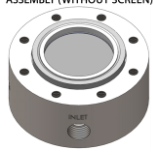

Figure 2: Correct Cartridge Assembly Installation
8. Install a replacement cartridge assembly to the separator body (*Figure 1* and *Figure 2*). Ensure that the grooved side of the cartridge body faces up to the outlet.
10. Following a cross-bolting sequence, install the eight (8) cap screws to the cap of the LE-2. Tighten the screws to 5 ft-lb.